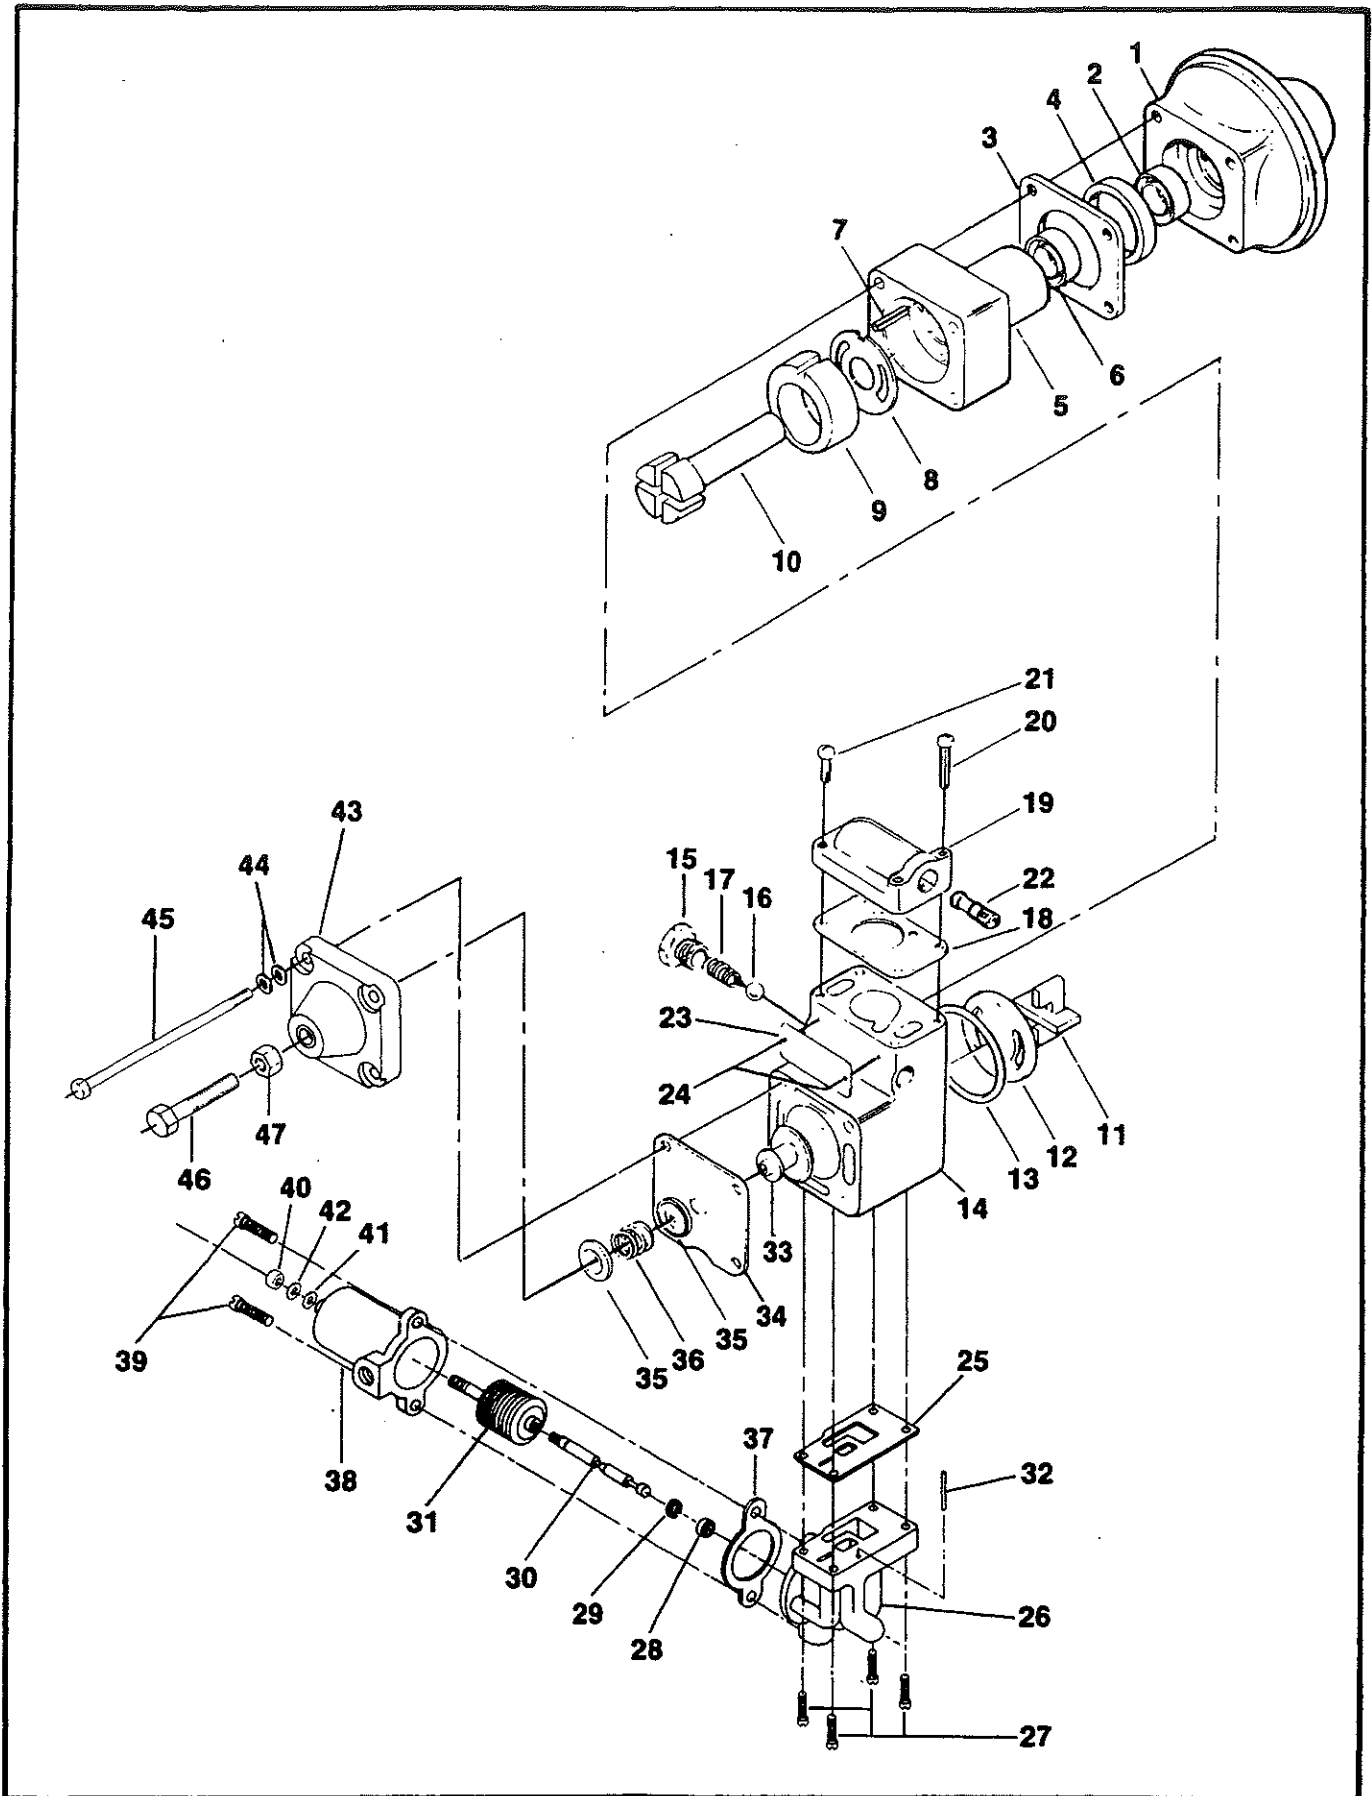

FIGURE 40-06. FUEL PUMP ASSEMBLY.
A. Place pump assembly in a suitable fixture and remove all lockwire. Refer to Figure 40-06. Remove screw (46) from cover (43) to release spring pressure. Remove nut (47), from aneroid adjusting screw. Remove four bolts (45) from pump assembly and vapor separator relief valve aneroid assembly (14 through 47). Remove this section from basic pump assembly (5 through 13). Separate cover (38) from body (14) and (26) while screwing down on aneroid (31). Use care when removing cover so as not to scratch aneroid (31) or compress it by screwing it too far into cover (38) prior to separation from body (26).
B. Remove screws (27), variable orifice body (26), gasket (25) and gasket (37). Pin (32) must be removed so aneroid (31) and rod (30) can be withdrawn from body. The rod seal (28) and retaining ring (29) can be removed for replacement by soaking the variable orifice body (26) in a mixture of 80% Glacial Acetic acid and water, then scrape off the softened epoxy, if epoxy was used. Remove ball (16), spring (17) and plug (15) from vapor separator body. Remove screws (20 and 21), cover (19), gasket (18) and ejector (22).
C. Disassembly of the basic pump should be accomplished in the following manner. Refer to exploded view (Figure 40-06) and remove the adapter (1) and insulator (3) from the basic pump. Remove seal (2) from adapter (1) and bushing (4) from insulator (3). Hold pump body firmly in palm of hand, end plate (12) down, and apply pressure to drive end of rotor shaft (10) forcing end plate (12), end plate seal (13), blades (11) and shaft (10) from pump body. Remove seal (6) and discard. It is important to note the liner position relative to the rotation marking found on the top surface of the liner. It must be installed with the proper marking (C or CC) in the up position.
A. Reassemble basic pump (5 through 13) in reverse order of disassembly. Refer to Figure 40-06, and install new seal (6) in body (5). Install pin (7), plate (8) and liner (9) in body (5). Be sure liner is installed with proper rotation lettering visible. Use light machine oil to lubricate shaft (10) and install in pump. Install blades (11) in position and lubricate lightly. Install plate (12) and seal (13) to complete basic pump assembly. Install new seal (2) in adapter (1). Install bushing (4) and insulator (3) on pump assembly and insert pump assembly (3 through 13) into adapter assembly (1).
B. Refer to exploded drawing Figure 40-06, and assemble vapor separator, relief valve and aneroid sections as follows:
C. Install seal (28) in body (26) and put a thin layer of Loctite 290 in the retaining ring groove and install retaining ring (29). Insert aneroid and rod assembly into body (26) and install pin (32).
D. Install to body (14), gasket (18) and cover (19). Install ejector (22) in cover (19). Apply a thin coat of Loctite 242 to screws (20) and (21) and secure.